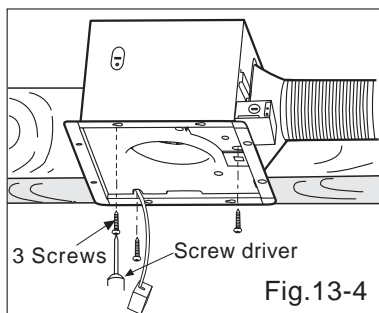

Fig.13-4
8. Secure the blower. (Fig.13-4) and plug connector to receptacle (Fig.12)